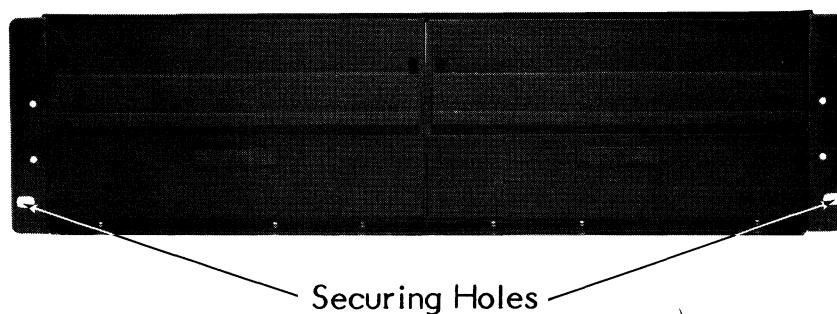

Figure 2-4.     Front View of Chassis with Front Panel
- 4) Secure the chassis in the rack by bolting the front flange to the front rails of the rack as shown in Figure 2-4.